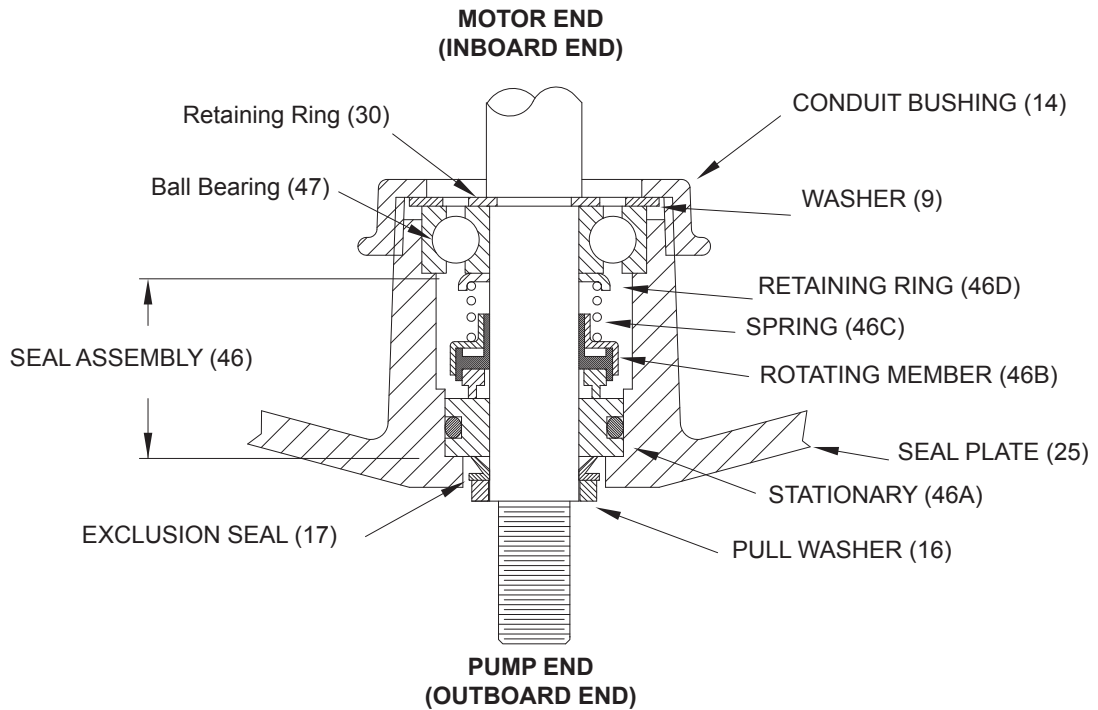

FIGURE 3
To examine or replace the motor (1), shaft seal (46), and bearing (47), drain oil from motor as outlined in paragraph F-1.2. Disassemble volute and impeller as outlined in paragraph F-2.1. (See Figure 3, 4, and 5)
Seal - Remove rotating member (46a), spring (46c) and retaining ring (46d) from shaft. (see Figure 3). Examine all seal parts and especially contact faces. Inspect seal for signs of wear such as uneven wear pattern on stationary members, chips and scratches on either seal face. **DO NOT** interchange seal components, replace the entire shaft seal (46). If replacing seal, remove stationary (46a) from seal plate (25) by prying out with flat screwdriver.